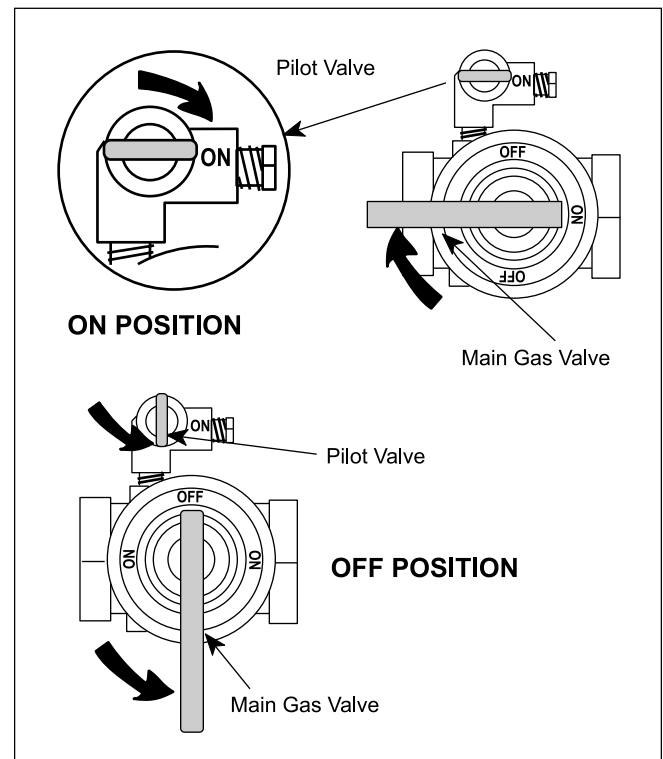

Figure 14. Gas Manual Valves.
- b. Turn off all manual gas valves and wait five minutes (see Figure 14).